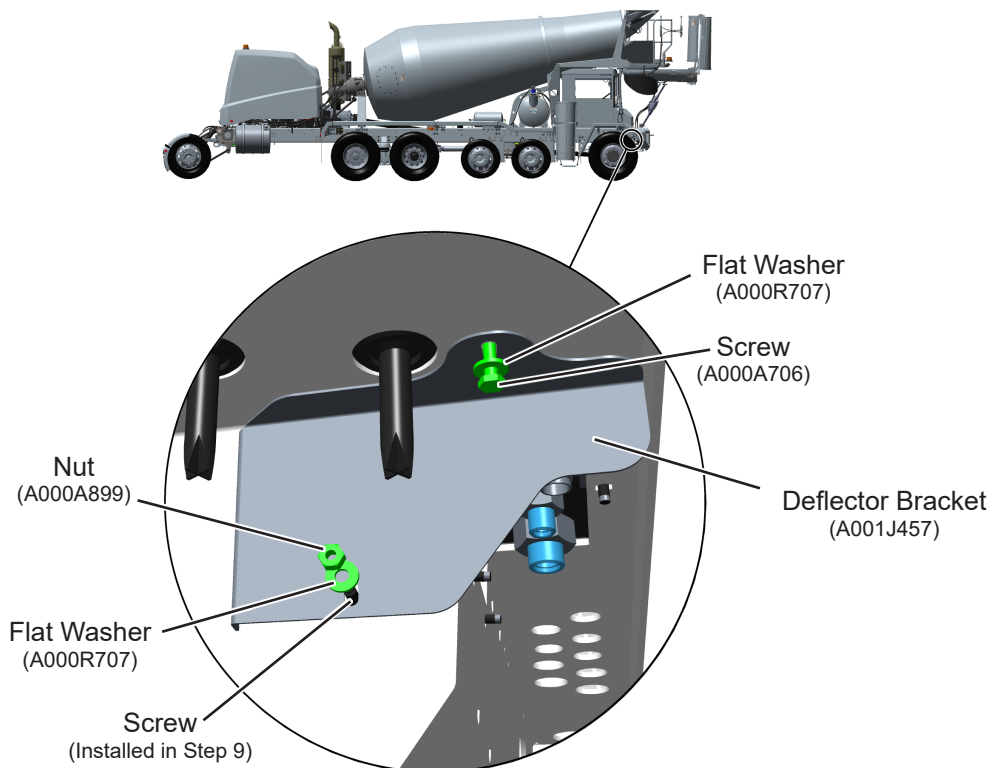

Figure 9. Deflector Bracket - Right-Hand Frame Rail Hidden for Clarity
13. Cover the cab air intake opening with the bracket and slide the bracket lower mounting hole onto end of screw installed in Step 9. See Figure 9.
14. Apply Loctite® #242 to threads of screw installed in Step 9 and install flat washer (A000R707), and nut (A000A899) finger tight. See Figure 9.
15. Install flat washer (A000R707) on 0.25-20 x 1.25" screw (A000A706). See Figure 9.
16. Apply Loctite® #242 to threads of 0.25-20 x 1.25" screw (A000A706) and install screw with flat washer in bracket upper mounting hole. See Figure 9.